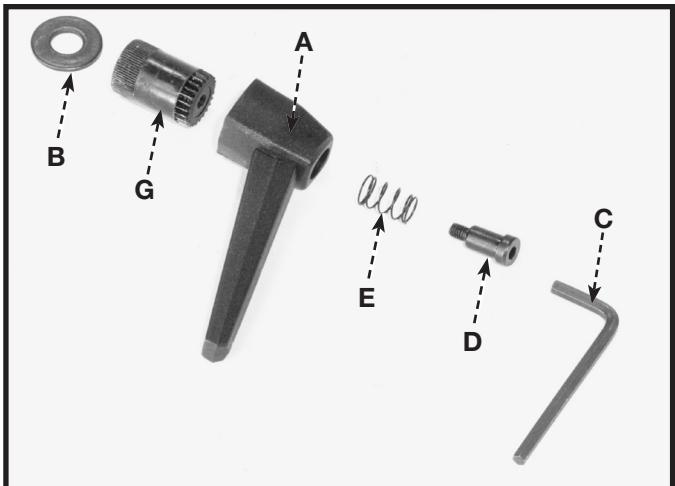

**Fig. 10**
1. Remove table locking lever (A) Fig. 10 and table tilt pinion knob (B). Be careful not to lose these parts. (These components were assembled at the factory for transit purposes only).